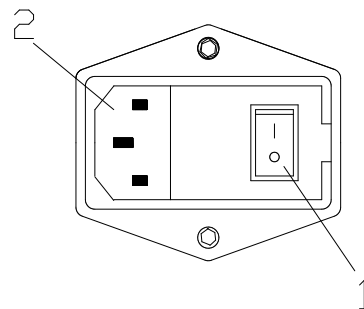

Fig 3
- Connect the power cord to the power socket Fig 3 (2) on the rear side of the instrument.
- Turn on the power switch Fig. 3 (1).